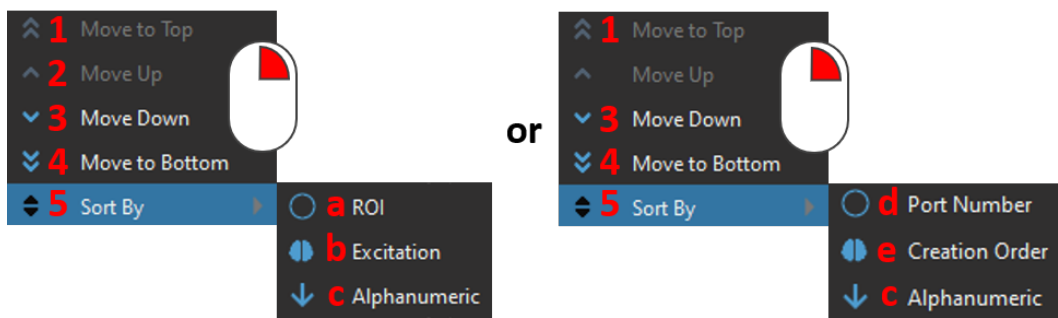

Figure 10.43: Graph View, Arrange graphs order
The order of individual graphs can be modified (within the channel types) by *right clicking* one of the graphs in the **Graph View**. This opens a small pop-up menu (Fig. 10.43), that includes the following options:
1. The **Move to Top** option (Fig. 10.43, 1) sets the selected graph as the first one of its channel type within **Graph View**.
2. The **Move Up** option (Fig. 10.43, 2) shifts the selected graph towards the top by one graph, but only within its channel type.
3. The **Move Down** option (Fig. 10.43, 3) shifts the selected graph towards the bottom by one graph, but only within its channel type.
4. The **Move to Bottom** option (Fig. 10.43, 4) sets the selected graph as the last one of its channel type within **Graph View**.
5. The **Sort By** option (Fig. 10.43, 5) rearranges the graph order based on:
- The **ROI ID** option (Fig. 10.43, a) such that the first created ROI will be on top and the last created will be on the bottom.
- The **Excitation** option (Fig. 10.43, b) such that all channel corresponding to the same excitation (for example Isosbestic, 470, 560) will be grouped together in their order of creation.
- The **Alphanumeric** option (Fig. 10.43, c) such that the **UserName** of each channel will be ordered alphabetically.
- The **Port Number** option (Fig. 10.43, d), set a chronological order within each channel type (e.g AIN01, AIN02, AIN03, etc.).
- The **Creation Order** option (Fig. 10.43, e) such that the first created channel will be on top and the last created channel will be on the bottom.